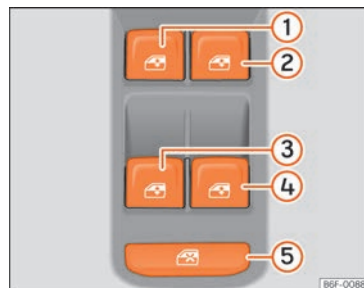

Fig. 59 Detail of the driver's door: window controls.
The safety control » » Fig. 59 ⑤ on the driver door can be used to disable the electric window buttons on the rear doors.